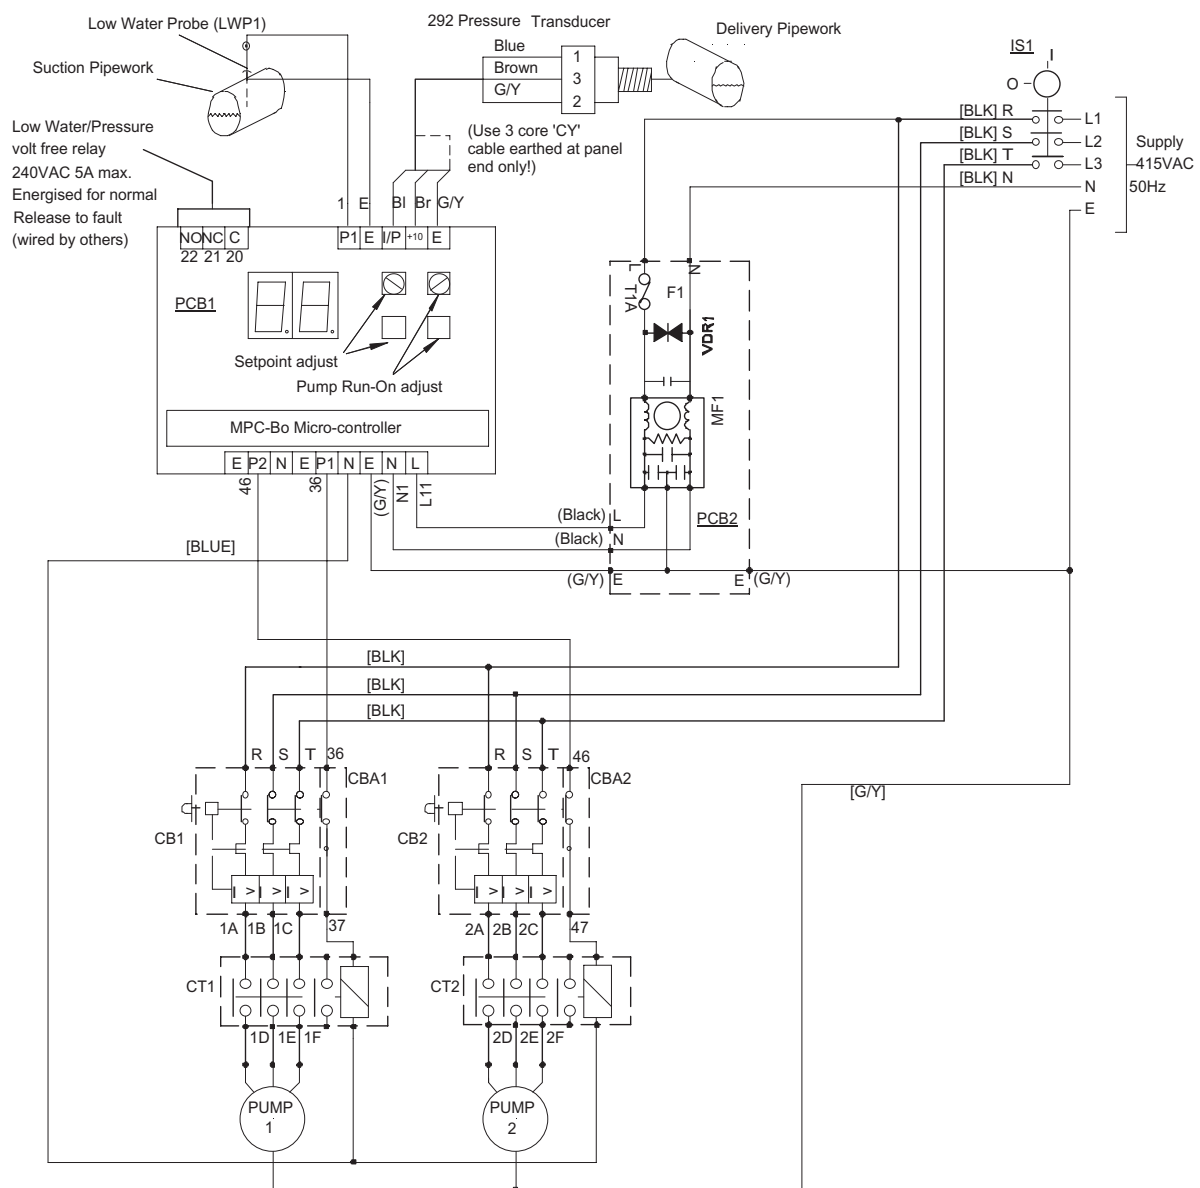

Fig. 1.3 Typical example of electrical connections
- 1.3.6.3 Connect incoming electrical mains supply to identified terminals on isolator IS1 in panel (see fig. 1.3). Ensure voltages and frequency indicated on the motor nameplates and wiring diagrams correspond with supply mains data and that the supply fuse ratings are correct for the total current rating of the equipment. Note: some units may require Neutral supply for special applications. Refer to wiring diagram supplied with the unit or contact AquaTech-Pressmain.
- 1.3.6.4 Where optional remote fault signal is required connect volt free terminals in control panel to remote panel. See fig 1.3 and wiring diagram provided.
- Volt free single pole changeover contact in control panel (see fig 1.3) :